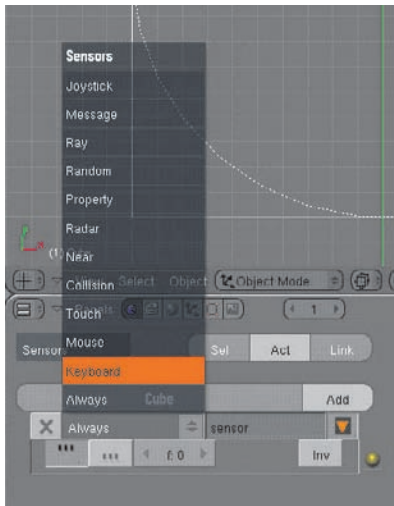

Figure 6.10 Setting a keyboard action sensor
6. You can now begin setting up some basic game logic by using the buttons shown in Figure 6.9. Game logic is the main way to define what events or actions lead to others inside the game environment. Interactive controls are set up here. To set up the game logic, begin by adding a sensor. Click Add, and then select Keyboard, as shown in Figure 6.10.